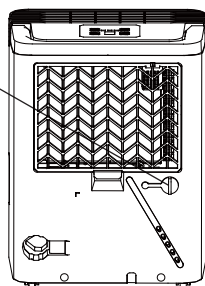
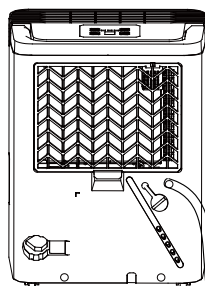

Fig. 8
Fig. 9
- Remove the rubber plug from the back drain hose outlet. Attach a drain hose (ID=13.5mm) and lead it to the floor drain or a suitable drainage facility (see Fig.8 and Fig.9).